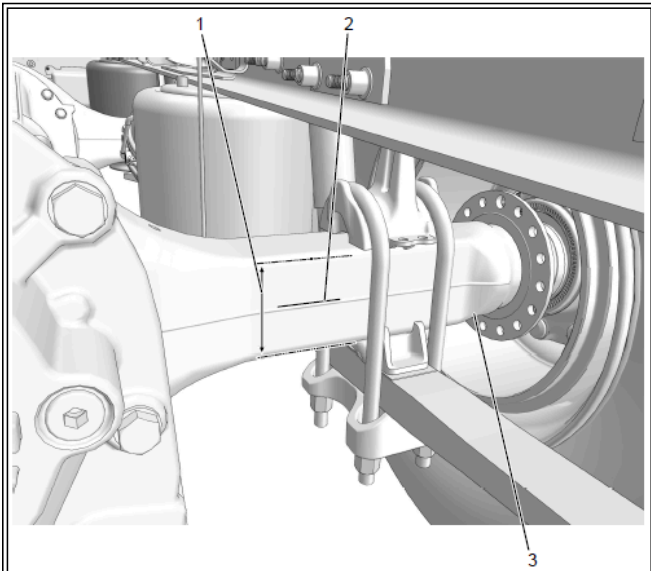

Figure 1: Axle tube front center line
3. At the wheel end of the axle tube (3), closest to the leveling valve, measure vertically on front of axle tube (1) and find the center of the axle tube. See Figure 1.
4. Mark a line on the front of the axle tube indicating the center measurement of the axle tube (2). See Figure 1.